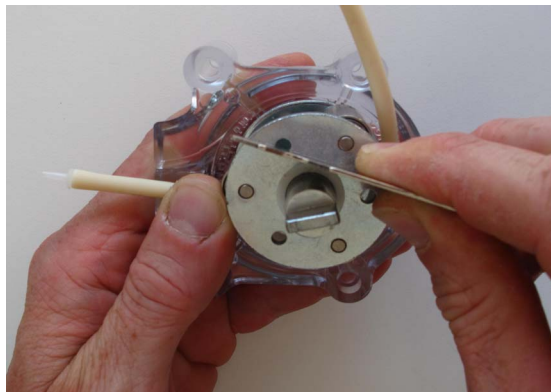

Fig. 5-18: Turning the mounting aid anticlockwise
- 17 Turn the mounting aid counterclockwise while holding the tube with your thumb. See Fig. 5-18, 88.